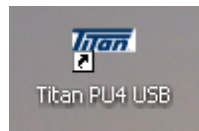

Figure 12
1. Double click the Titan ControlFire® PU4 icon on your desktop. See Figure 12.